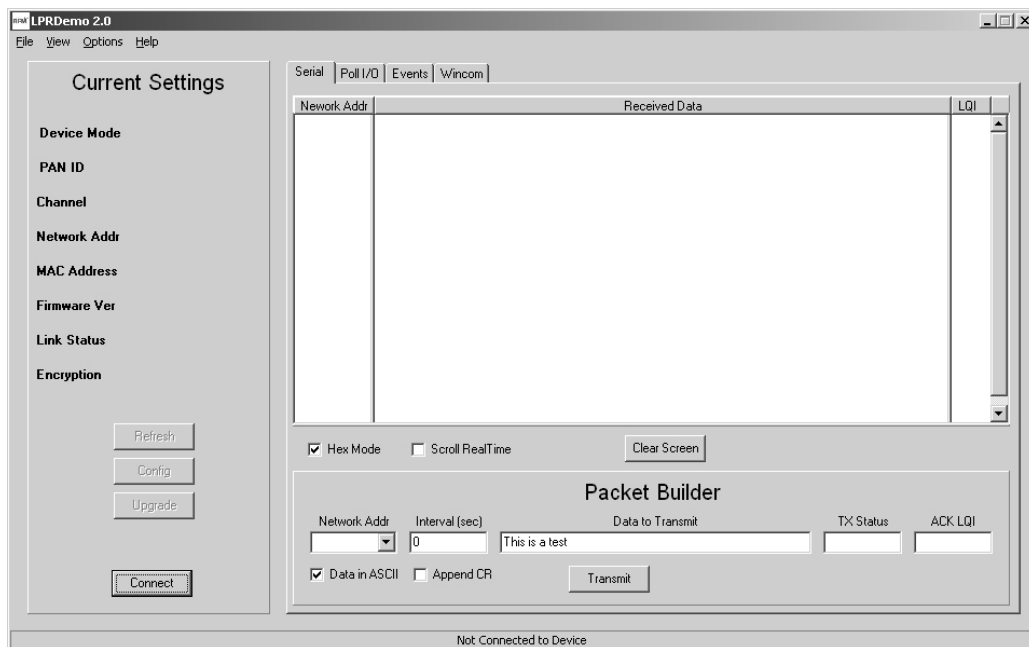

Figure 3
5. Copy LPRDemo2 from the *Programs* folder on the kit CD to a convenient folder on the PC. This program runs using ordinary Window's resources and does not require any framework installations, registry entries, etc., to run. Start LPRDemo2. The start-up window is shown in Figure 3 above.